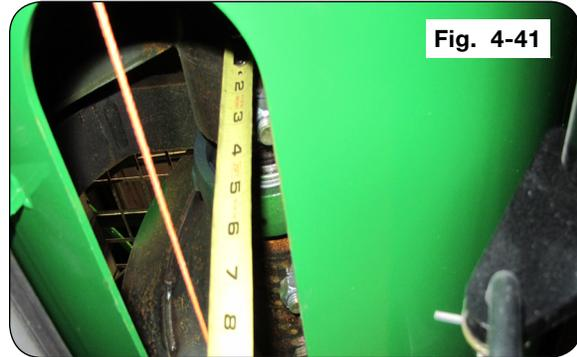

Fig. 4-41
30. Extend a string tightly from front to rear to check horizontal auger alignment. Measure the string to the auger tube either in front or behind the hanger bearing. If this dimension is 1/8" greater than the measurement taken in the front and rear, shims (8GA - 286419B or 12GA - 286424B) are required on top of the center hanger bearing. Ideally the center measurement should be equal to or 1/8" lower than the measurements on the ends of the augers. (Figure 4-41)